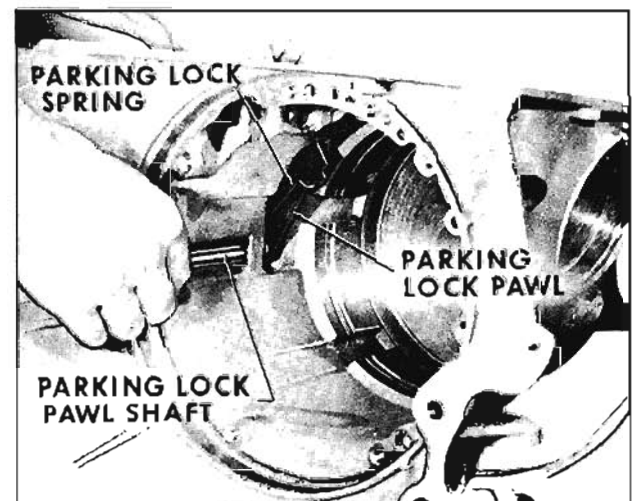

Fig. 6-410 Installing Parking Lock
1. Retain parking lock pawl and spring in case with parking lock pawl shaft. (Fig. 6-410)